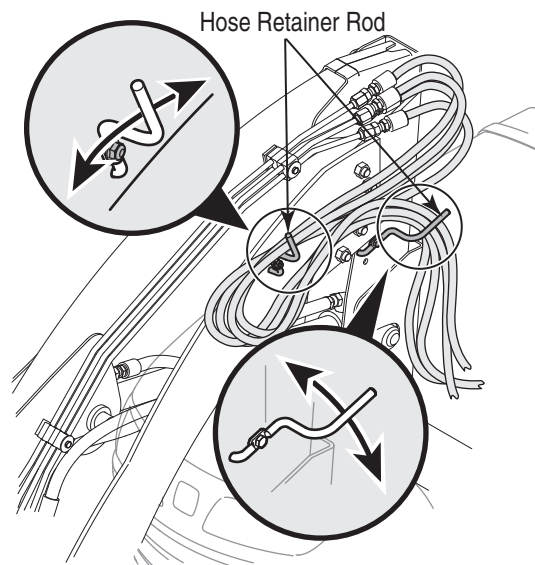

Figure 12
- Route the hydraulic hoses forward along the inside of the RH loader hitch arm and place the hoses between the loader arm and the hook of the hose retainer rod; then loop the hoses rearward and place the hoses between the RH loader mast and the second hose retaining rod. Refer to Figure 12.